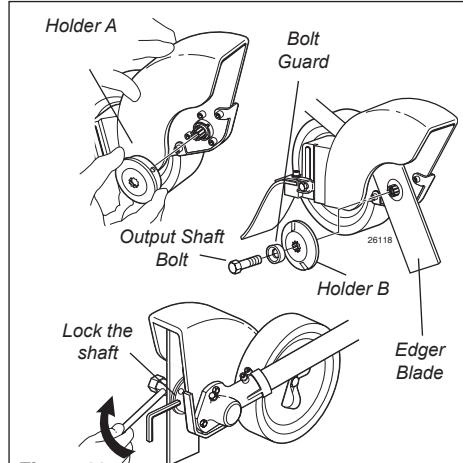

Figure 26
- Mount the edger blade and holder B onto the shaft, and then install the bolt guard and shaft bolt (turn bolt counter-clockwise to install). See Figure 26.
- Align the hole in holder A with the matching hole in the gearcase, and then use the hex wrench to temporarily lock the output shaft. See Figure 26.
- Use the combination wrench to firmly tighten the shaft bolt. Remove the hex wrench. See Figure 26.